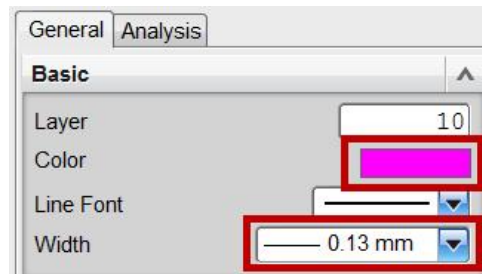

Figure 2–10
19. Change the color to **Magenta** (Color ID: 181) and width to **0.13mm** as shown in Figure 2–10.